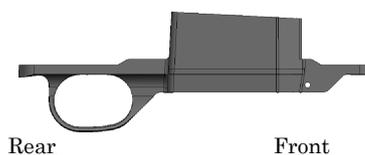

Fig.1
(1) Tightening torque of 35 inch-pound is durable with no breakage in 100 tightening tests.
(2) The first cracks to appear due to tightening are on the Rear/B-side (Fig. 1).